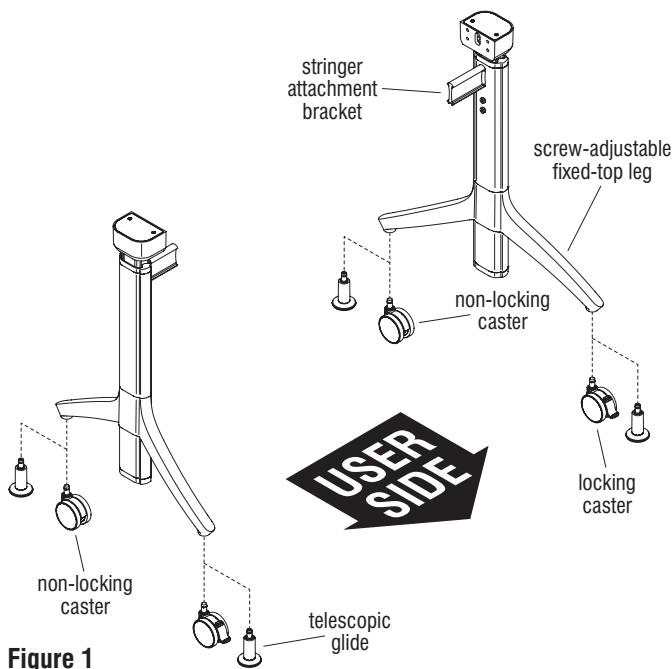

Figure 1
attachment brackets facing each other as illustrated. Orient the legs so the stringer attachment brackets on each leg post are inline to each other, then identify the side of the leg pair that has a larger gap between the feet. The side with the larger gap is the user side and eventually will be placed at the user side of the tabletop (Figure 1 & Detail A).
4. Locate the locking and non-locking casters. Locking casters are to be installed to the front, user side of each leg, and non-locking casters are to be installed to the rear of each leg. Press in fully to install the stem of one locking and one non-locking caster into the caster mounting holes at the underside of each foot (Figure 1).
6. Press in fully to install the stem of two telescopic glides into the mounting holes at the underside of each foot. Continue to insert fully until each caster is snug to the bottom of the feet (Figure 1).